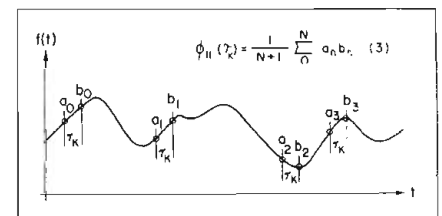

Fig. 2: Portion of a random time function showing graphical representation of equation (3)
pairs multiplied together, the results summed and their mean taken determines one point on the correlation curve. The important point is that the correlation function can be represented by a summation and averaging of a large number of discrete multiplications, where sampled values  $f(t)$ , rather than the entire time function, are delayed and stored. This means that the definition of Eq. 1 becomes approximated by Eq. (3) shown in Fig. 2, where  $a_n$  and  $b_n$  are samples of the